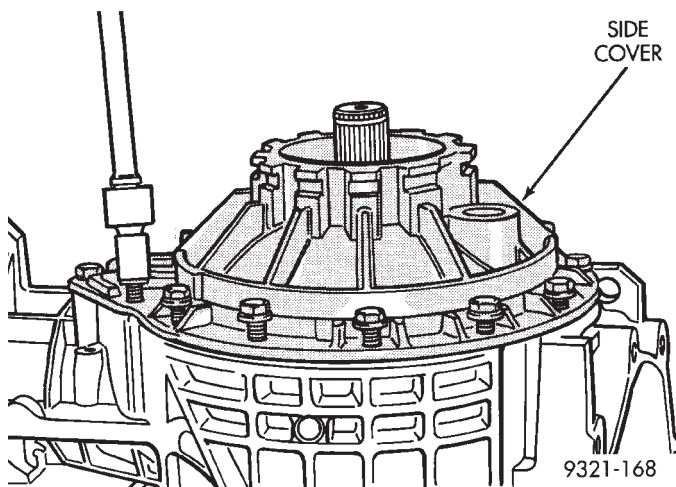

Fig. 267 Differential Cover Installation
(26) Install differential cover (Fig. 267). Do not apply silicone sealant at this time. All bolts should be installed and tightened.